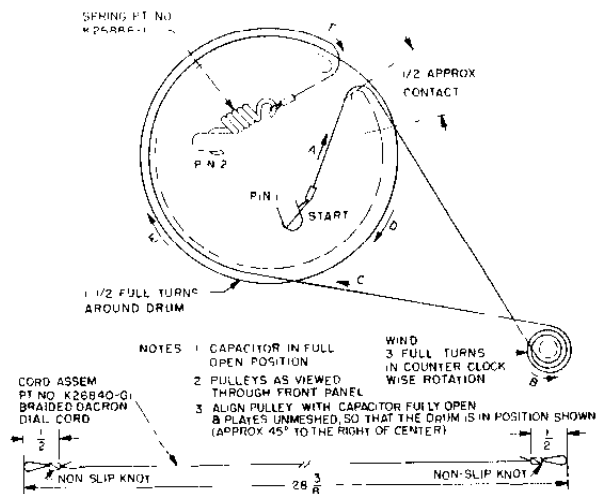

Figure 8. Restraining the VFO Drive Mechanism
4. Place the loop end of the VFO drive cable over pin 1 on the tuning drum. Following the lettered sequence shown in figure 8, string the VFO drive cable on the drum and anchor the spring over pin 2 of the tuning drum.